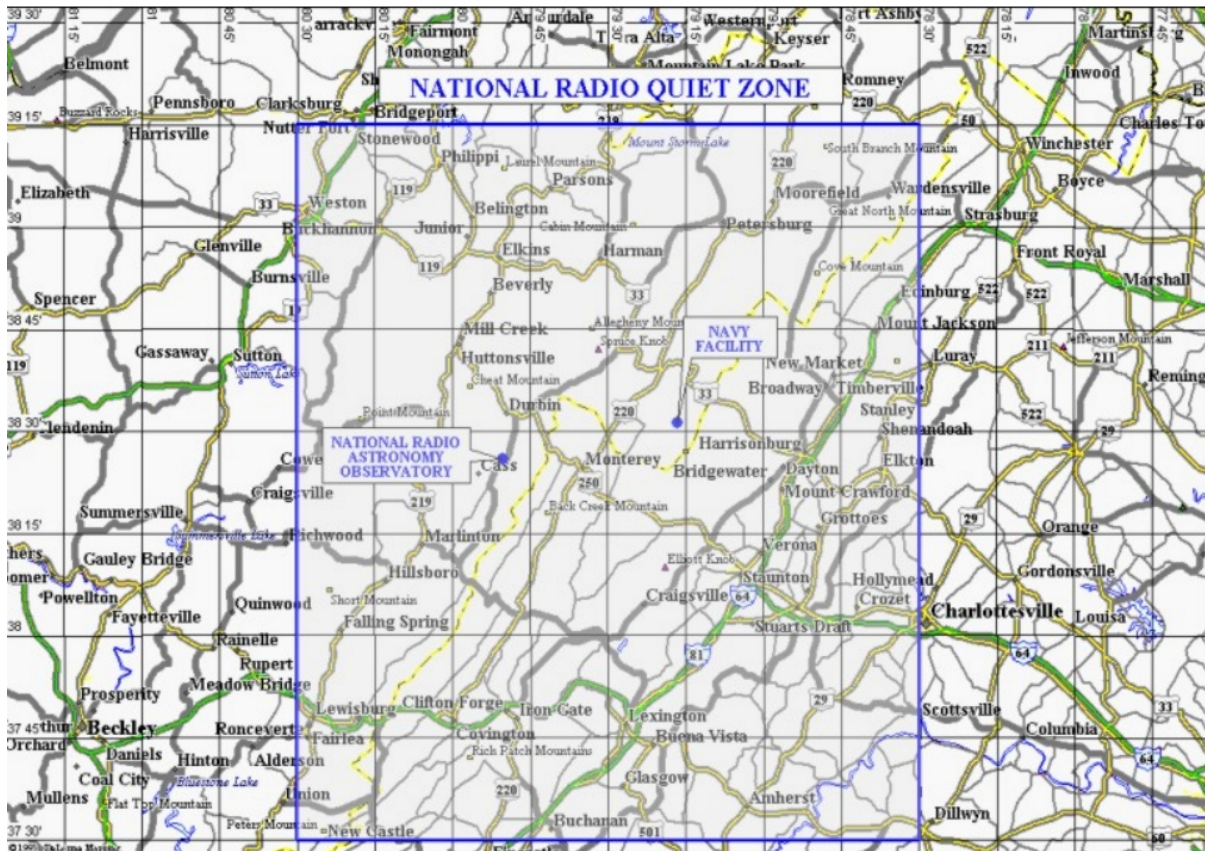

Figure 2.2: The National Radio Quiet Zone.
- **Location in the National Radio Quiet Zone:** Comparatively low RFI environment (See Figure 2.2).